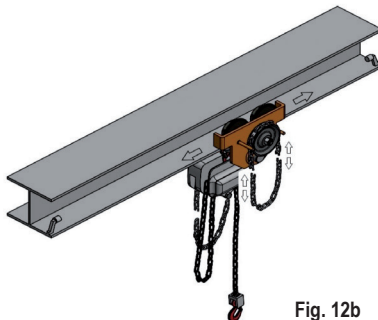

Fig. 12b
- adjust the manoeuvre chain on the chain driven model (fig. 12B).